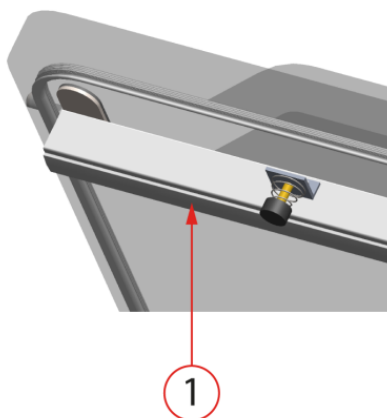

Figure 8: Replacing the Silicone Rubber of the Silicone Holders
1. Pull the old silicone rubber from the holder, see *Figure 8: Replacing the Silicone Rubber of the Silicone Holders* on page 34.